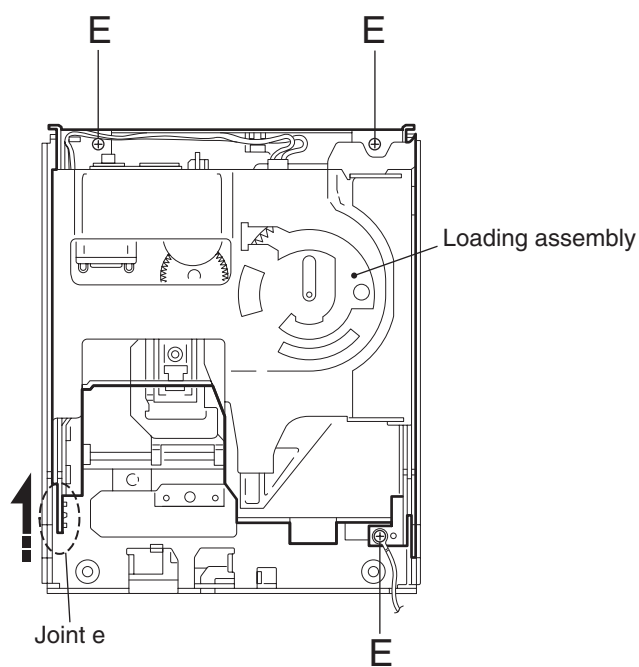

Fig.8
■ Removing the loading assembly (See Fig.8, 9)